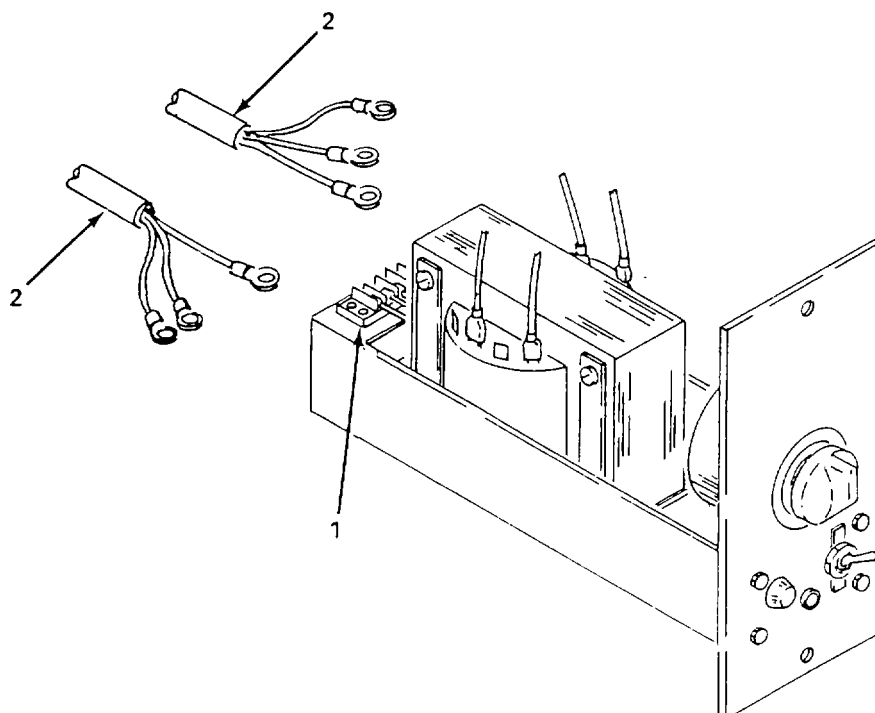

Figure 5-27. Single Light Power Supply (Outer Lock) Power and Light Cords, Replace.
(5) *Replace power and light cords.* (figure 5-27)